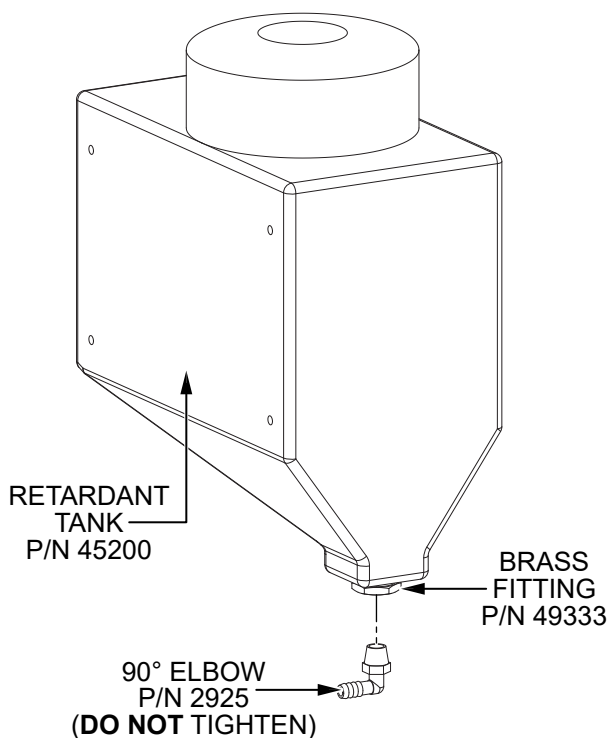

Figure 2. Install 90-Degree Elbow
1. The brass fitting (P/N 49333) comes pre-installed onto the bottom of the retardant tank (P/N 45200). Connect the 90-degree elbow (P/N 2925) to the brass fitting (P/N 49333) but **DO NOT** tighten it yet. See Figure 2.